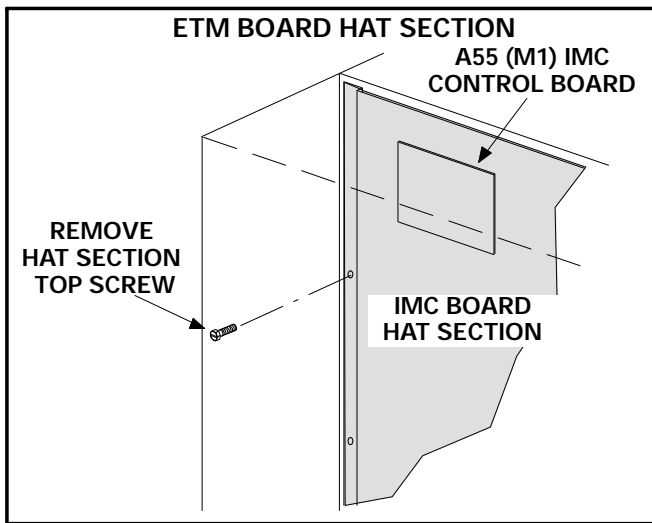

FIGURE 3
- 2- Remove and retain top screw securing IMC (A55) board hat section to unit. See figure 3.